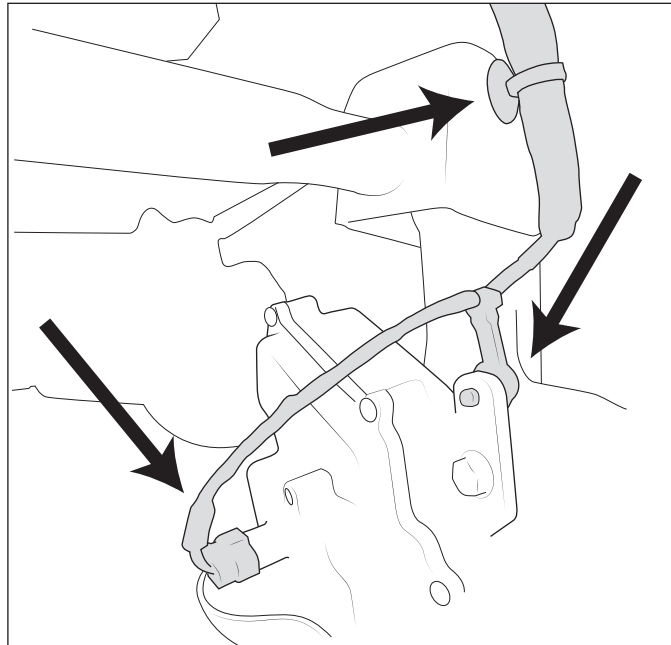

Figure 16
- Unhook the connector and harness running to the central axle disconnect (fig. 16).